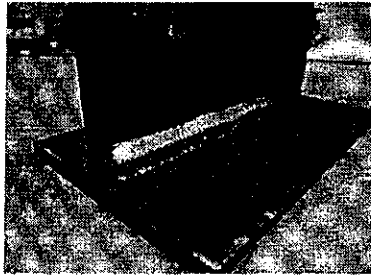

Figure 5
- (a) What is the name of the type of welded joint shown in Figure 5? In your judgement, is the weld shown in the figure produced by a fusion welding process or solid-state welding process? Do you need to use shielding gas in the welding process? Give your reasons.